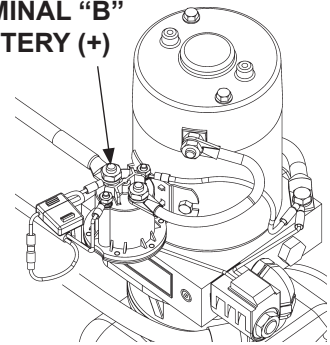

FIG. 37-1
1. Use voltmeter to verify power is being supplied to solenoid terminal "B". Recharge the battery if voltmeter indicates less than 12.6 volts (FIG. 37-1).